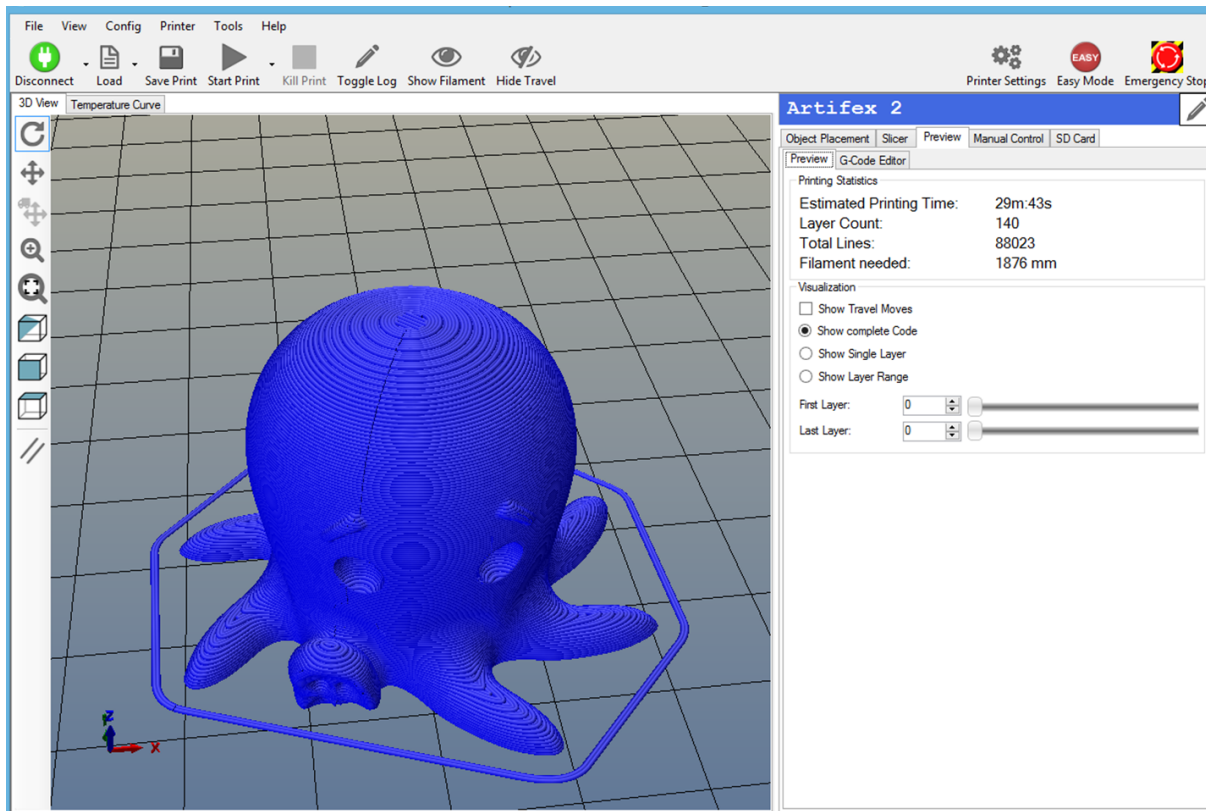

Figure 2.45: The Repetier-Host interface with loaded G-code
4. The Repetier-Host interface with the loaded file is shown in Figure 2.45.